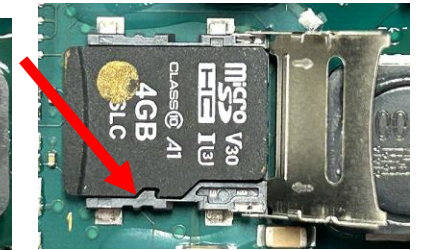

Figure 18
18. Carefully insert the SD card into the slot, with the contacts facing down as shown. The tab should fit into the notch on the side of the SD card (see Figure 18).